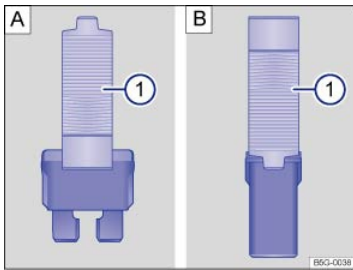

Fig. 174 Removing or installing a blade fuse with the plastic tweezers: : Blade fuse. : JCASE® fuse.
- Depending on the type of fuse, slide the tweezers ⇒ Fig. 174 A ① or ⇒ Fig. 174 B ① onto the fuse from the side.
- If the fuse is blown, replace the fuse with a new fuse of the same amperage (same color and same imprint) and same size ⇒ ①.